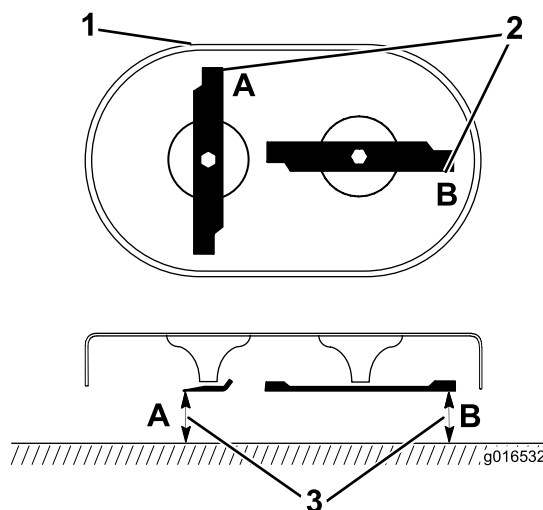

Figure 28
- Rotate the blades to the position shown in Figure 28.
- Measure from a level surface to the cutting edges at locations A and B (Figure 28), and record both dimensions.
- Rotate the blades so that their opposite ends are at locations A and B (Figure 28).